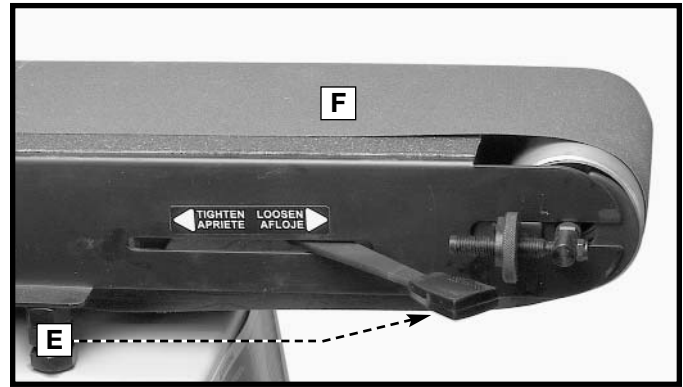

Fig. 39
4. Move the tension lever (E) Fig. 39, to the right to the "LOOSEN" position (F). Remove the sanding belt (F) from both sanding drums.
6. Move the tension lever (E) Fig. 39 left to the "TIGHTEN" position.